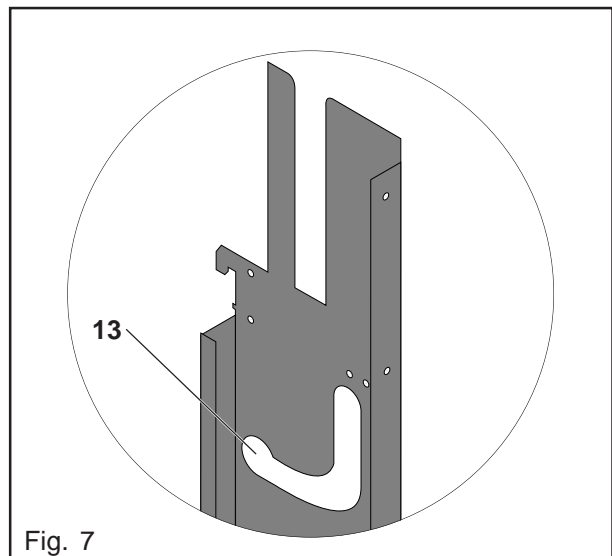

Fig. 7
- Remove the inner scraper arm through the lower bore (13) in the side plate. (Fig. 7)